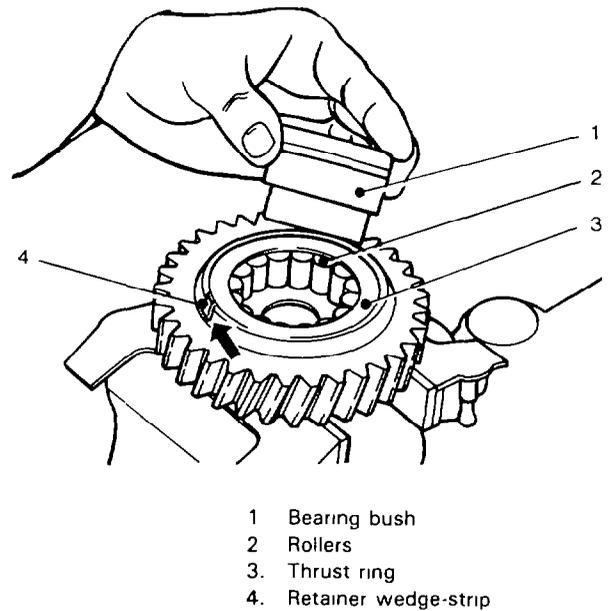

Figure 43 Reverse Idler Gear
- (1) Remove the main gearbox casing from the casing for the epicyclic gear assembly (refer to para 42).
- (2) Use a drift and hammer to drive the idler shaft out of the gearbox casing; remove the reverse idler assembly from the gearbox casing.
b. **Repair.** Repair the reverse idler assembly as follows (see Fig 43):
- (1) Clean and inspect the gearbox casing and all components; replace any worn or damaged components.
- (2) Remove the bearing bush (1) from the reverse idler assembly; remove